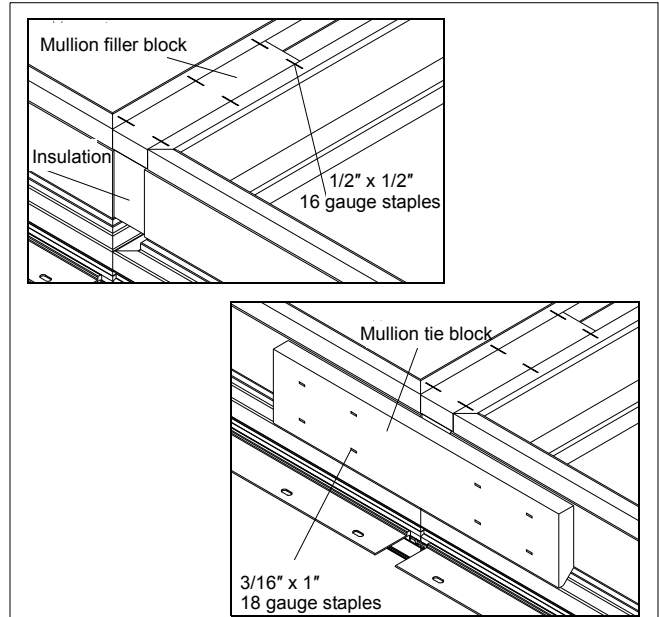

Figure 3
3. Insert mullion insulation between side jambs or head jamb and sill depending on your configuration. Insert mullion filler blocks at each end of mull cavity and at center in units with jambs 55" (1397) or longer. Attach blocks using 1/2" x 1/2" 16 gauge staples spaced every 4" (102). See figure 3. Attach mullion tie blocks at junction points with at least four 3/16" x 1" 18 gauge staples on each side of mullion as shown in figure 3.